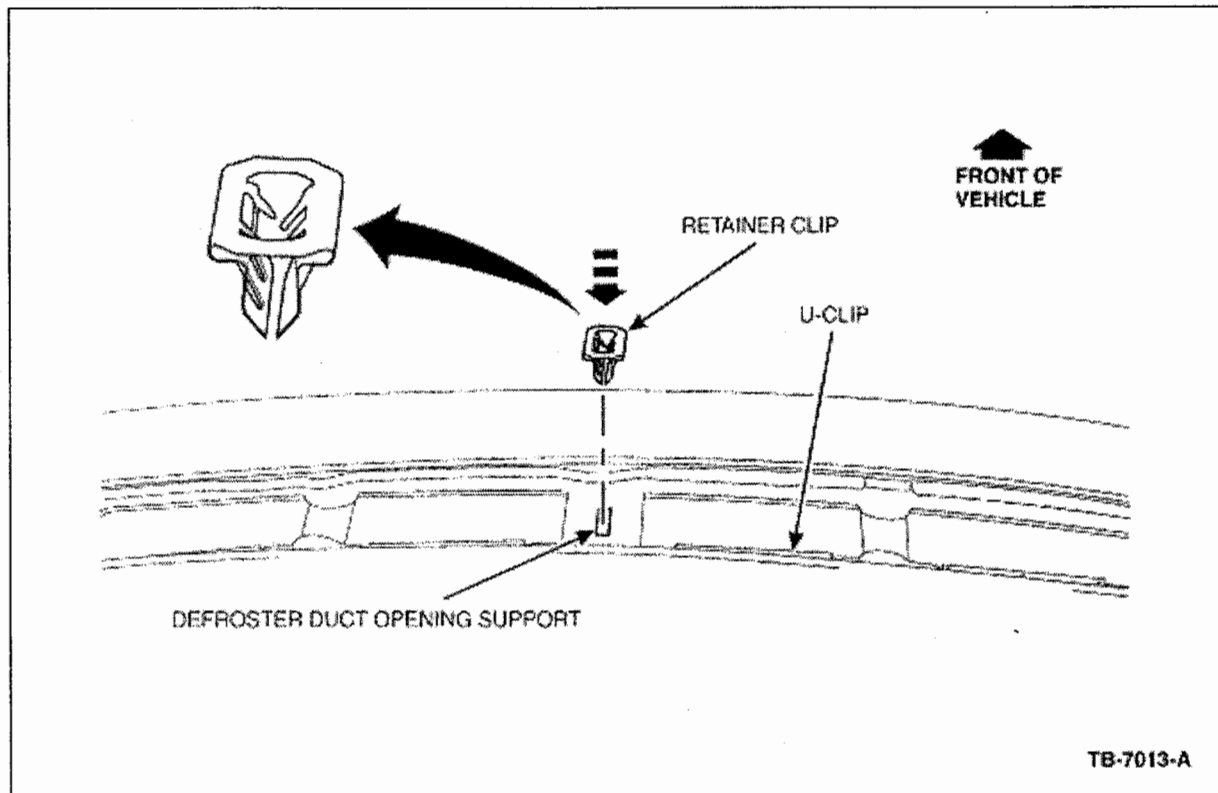

Figure 12 - Article 03-4-6
20. Install one (1) retainer clip into each of the three (3) defroster duct opening supports with holes (Figure 12).